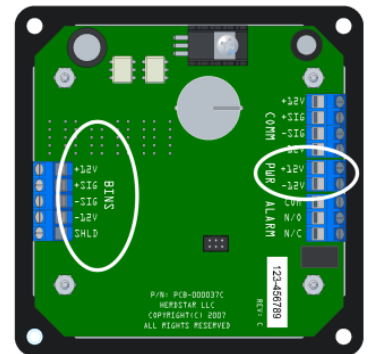

Figure 10: Insert wires in appropriate terminal block.
32. Insert the wires into the terminal block where RED is +12V, GREEN is +SIG, WHITE is -SIG and BLACK is -12V. (**Figure 10**)